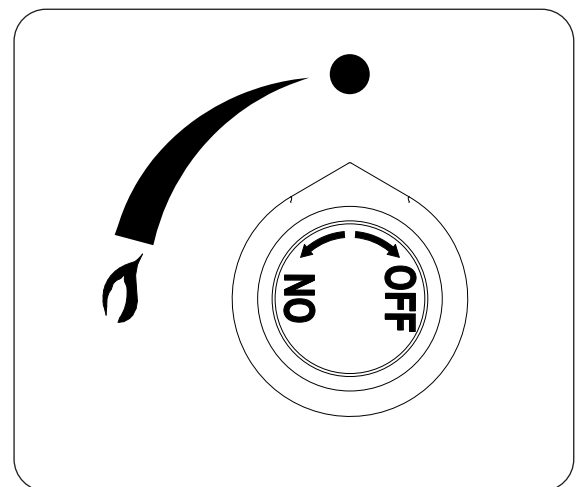

Fig. 43-2
4. **Once the flame is in position**, turn the gas control knob counter-clockwise to the **ON** position, depress, and hold for 15 seconds (see Fig. 43-2). Your burner should light within 5 seconds.
**To extinguish your gas burner**, turn the gas control knob clockwise to the **OFF** position (see Fig. 43-2). Be sure the control knob is turned fully off to avoid any gas leakage.